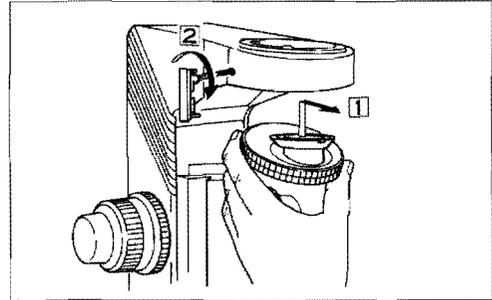

Fig. 2-7
⑤ Mounting and Dismantling the Revolving Nosepiece
- Loosen the revolving nosepiece clamp screw sufficiently using the hexagon wrench. (See ④.)
- To mount the revolving nosepiece push it in so the groove of the revolving nosepiece engages with the pin of the circular dovetail ①. Fasten it with the revolving nosepiece clamp screw ② (Fig. 2-7).